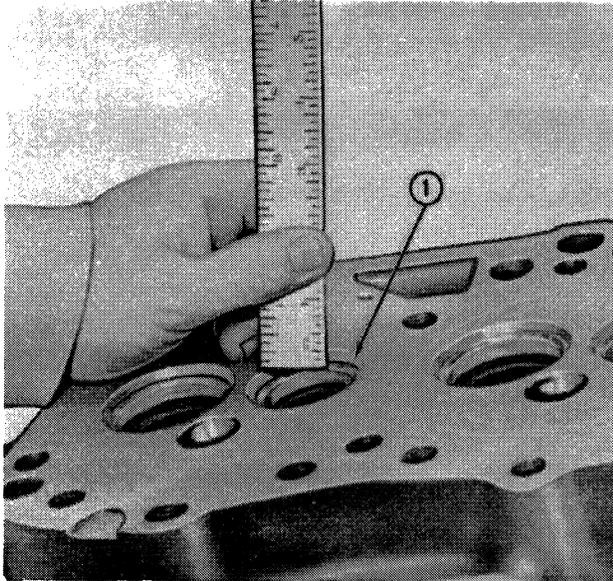

Figure 12
6. Measure the width of the valve seats, Figure 12, and reface the seats if they do not meet the specifications shown in Figure 14.